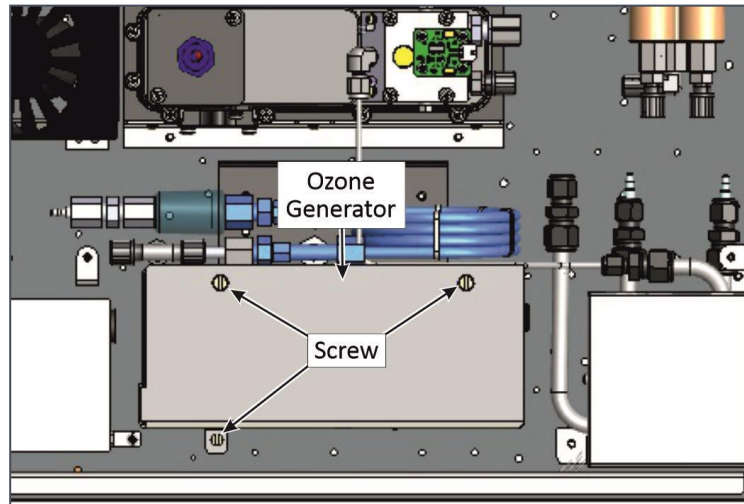

Figure 136 – Remove Ozone Generator from Instrument
3. Remove the 3 screws (refer to Figure 136) and lift the complete assembly from the instrument while at the same time disconnecting the assemblies power connector underneath from the main loom as you go.